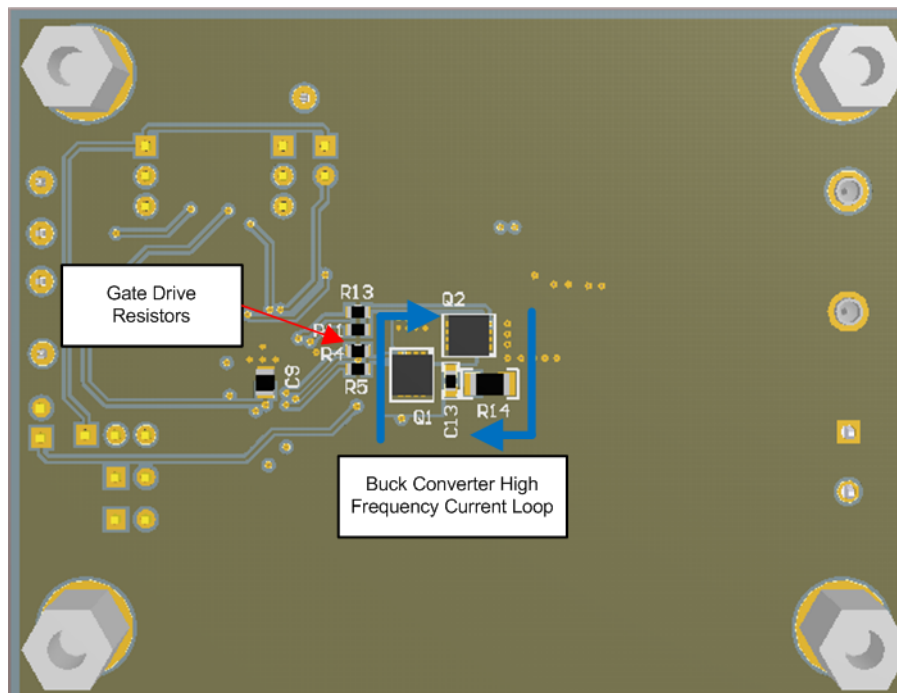
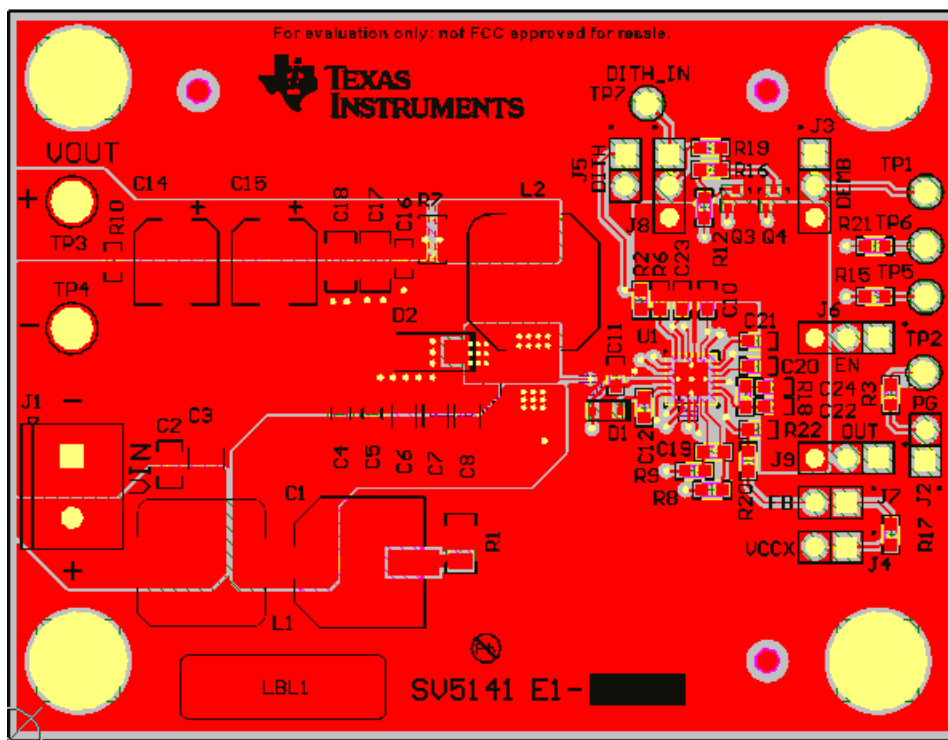
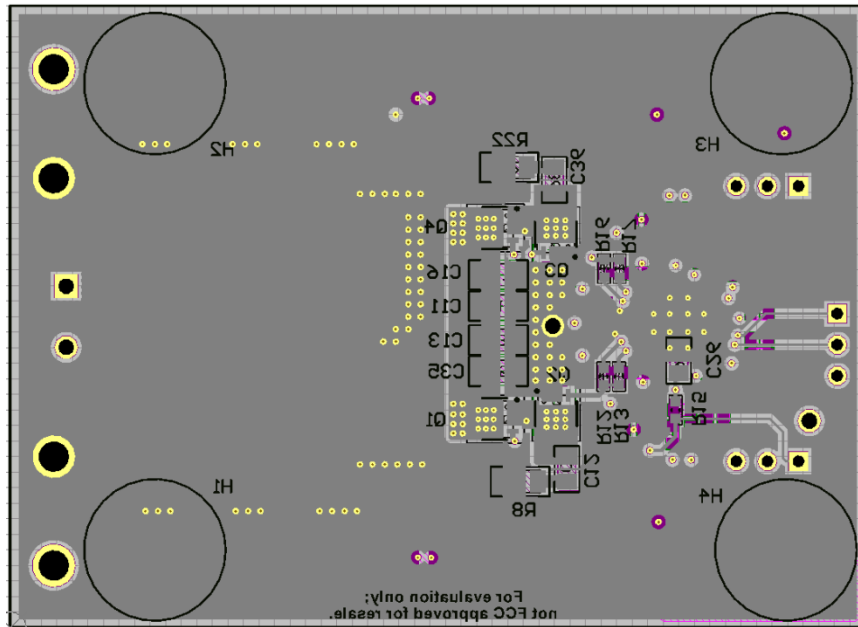

Figure 39. EVM Bottom Layer, High Frequency Current Loop
Figure 41. EVM Top Layer
Figure 42. EVM Bottom Layer
- Figure 39 shows the high frequency loops of the synchronous buck converter. The high frequency current flows through Q1 and Q2, through the power ground plane and back to V_{IN} through the ceramic capacitors C6, C7, and C8. This loop must be as small as possible to minimize EMI. Refer to Figure 41 and Figure 42 for the recommended PCB layout.
Figure 41 and Figure 42 show the Top and Bottom layer of the LM5141 EVM.